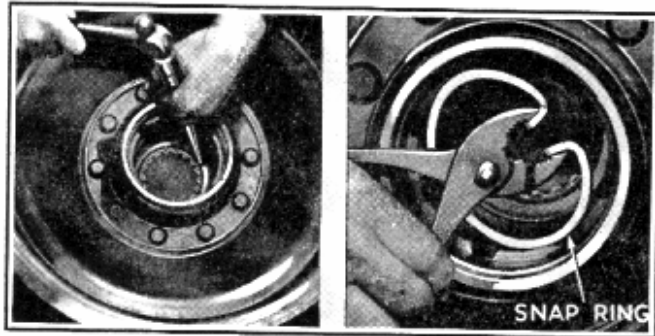

Fig. 4—Removing Outer Bearing Snap Ring
6. To remove the Outer Bearing, first tap the Outer Race to relieve the tension at the Snap Ring; then remove the Snap Ring on the inside of the Hub, Fig. 4. Remove the Bearing by